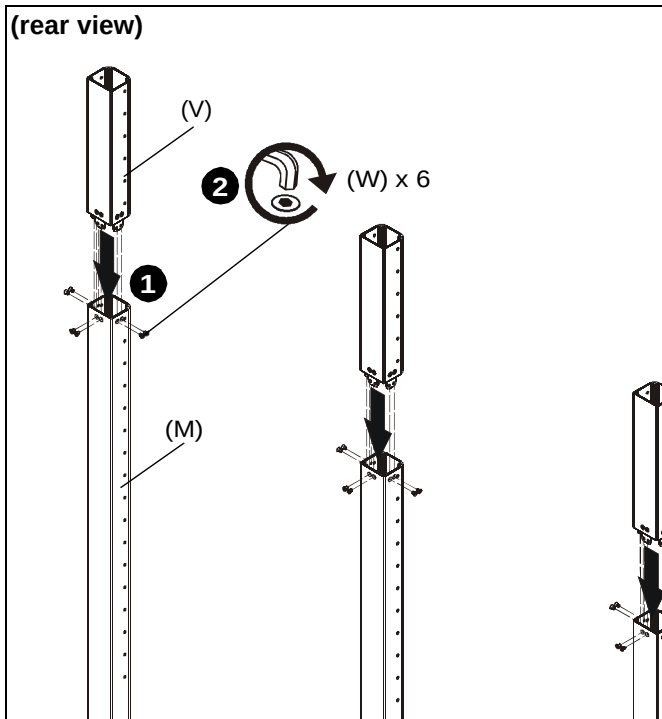

Figure 4
1. Insert one column add-on (V) to each column (M) making sure holes are lined up on each side. (See Figure 4)
2. Use 5/32" hex key (J) and six 1/4-20 x 1/2" flat head cap screws (W) to secure each column add-on (V) to each column (M). (See Figure 4)